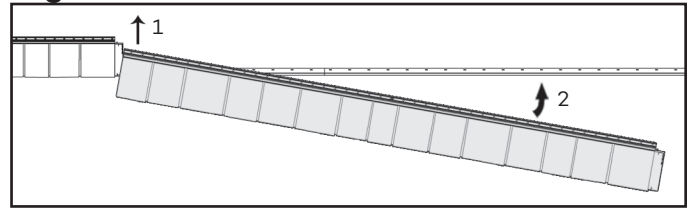

Figure D.1
4-Install the next section by hooking it into the starter strip and overlapping the previous, closest of the desired position (1), then rotate it upwards to fully engage the hook (2) (Figure D). If installed at outdoor temperature above 68°F(20°C), slide until the stopper located on the upper right end. A reference line located on the bottom right end allows to validate positioning. If installed at outdoor temperature between 32°F(0°C) and 68°F(20°C), adjust the left edge to the temperature line (Figure D.1). If installed at outdoor temperature below 32°F(0°C) position the section slightly right (1/16"(0.16cm)) of the 32°F(0°C) and 68°F(20°C) line. Once properly positioned, fasten it as previously indicated. Repeat this step until the end of the row.